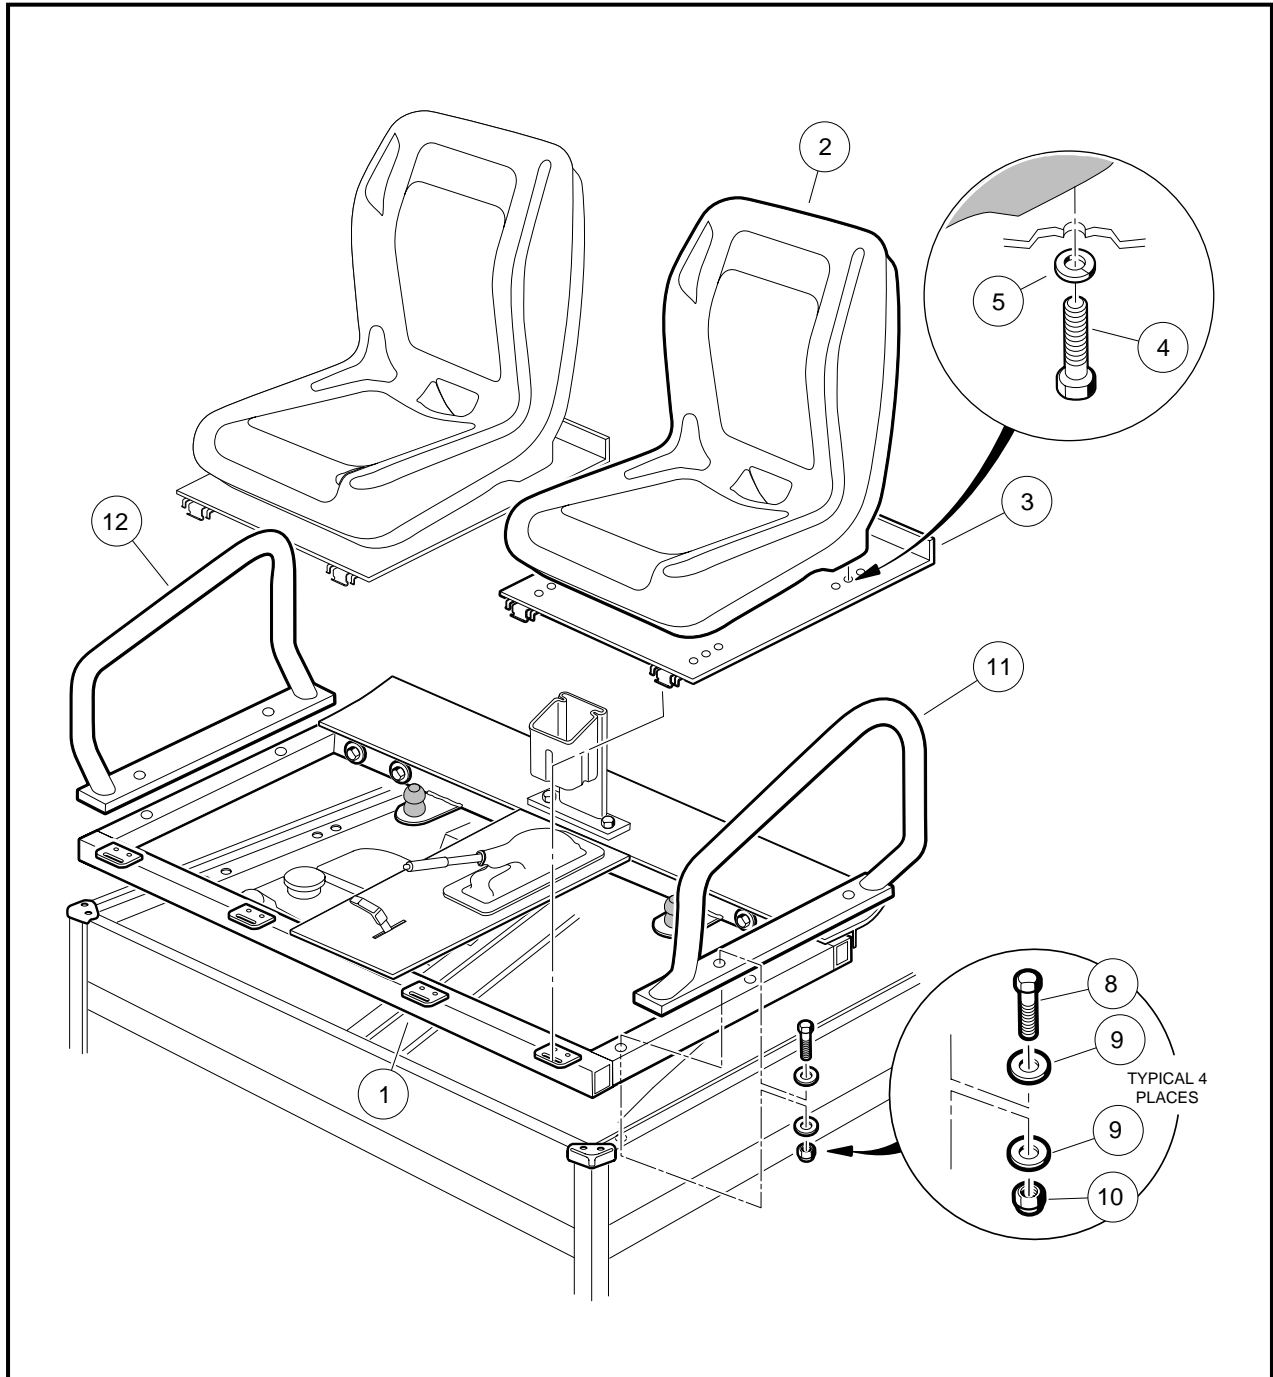

Figure 4-2 Seat Support
2. Disassemble bucket seat (2) from seat panel (3) by removing four bolts (4) and lock washers (5) (**Figure 4-2, Page 4-7**).
4. Remove the four bolts (8), eight washers (9) and four lock nuts (10) from the seat support (**Figure 4-2, Page 4-7**).
5. Remove the two armrests (11 and 12) from the seat support (**Figure 4-2, Page 4-7**).
1. Install the seat support and armrests. Tighten bolts (8) to 13 ft-lb (17.6 N·m) (**Figure 4-2, Page 4-7**).
1. Install the armrests and tighten bolts (8) to 13 ft-lb (17.6 N-m) **(Figure 4-2, Page 4-7)**.